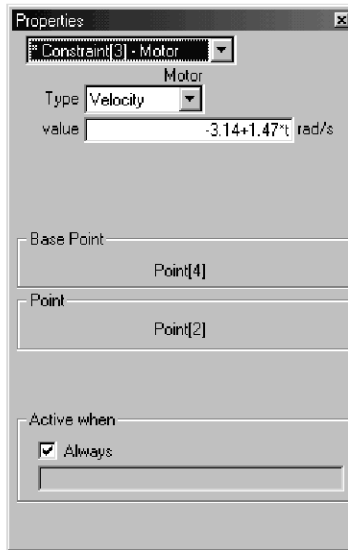

Figure 1
5. Type the following equation in the value field as shown in Figure 1.